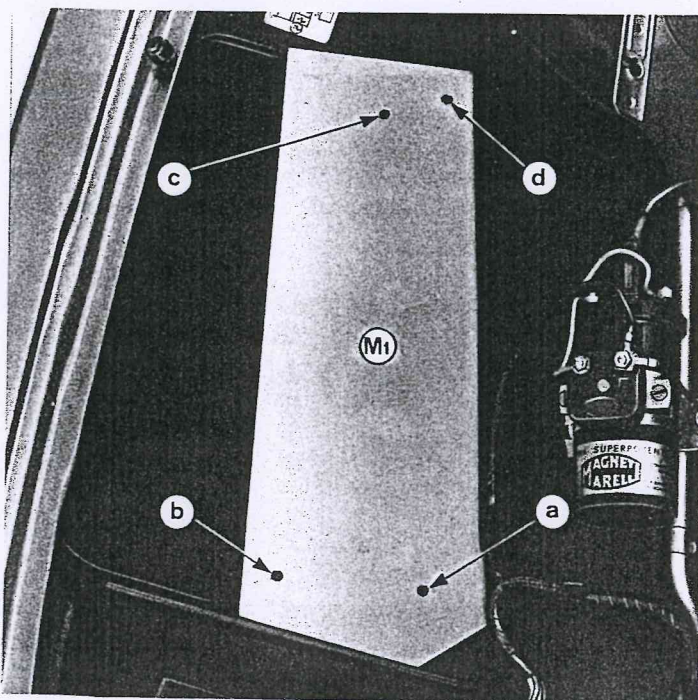
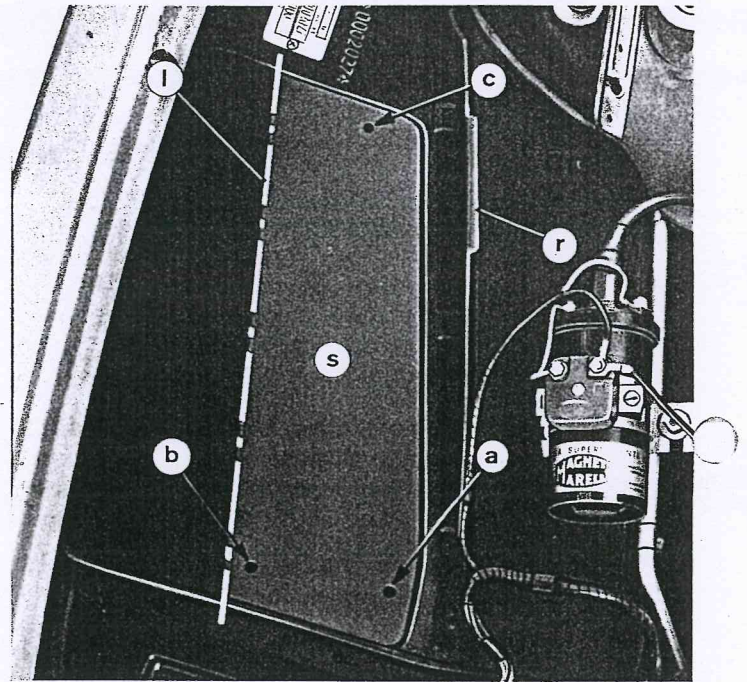

Fig. 5. - COUPÉ: position of jig M1 for scribing the « Dinoplex C » unit mounting holes a, b and c.
Fig. 6. - COUPÉ: adaptation and drilling of the « Dinoplex C » unit resting plane.
- 1) Place jig M1, fig. 5, in the position shown in the figure and scribe line I, fig. 6, which marks the seating area (s) of the « Dinoplex C ».
- 2) Remove the jig and by proper hammering indent the sheet metal along the scribed line I, fig. 6, so as to produce a stiffening rib and to prepare a suitable seating plane for the « Dinoplex C » unit. By further hammering bend towards the engine a portion of the sheet metal lip, r, fig. 6, at the joining edge of the unit casing rear inboard corner.
- 3) Position again the jig and scribe the three holes a, b and c, fig. 5. Remove the jig and drill 6,3 mm dia. holes a, b and c.
- 4) Install the « Dinoplex C » unit oriented as shown in fig. 4 and secure it with three screws inserted in the three holes a, b, c, fig. 6, from right wheelbox inner side.